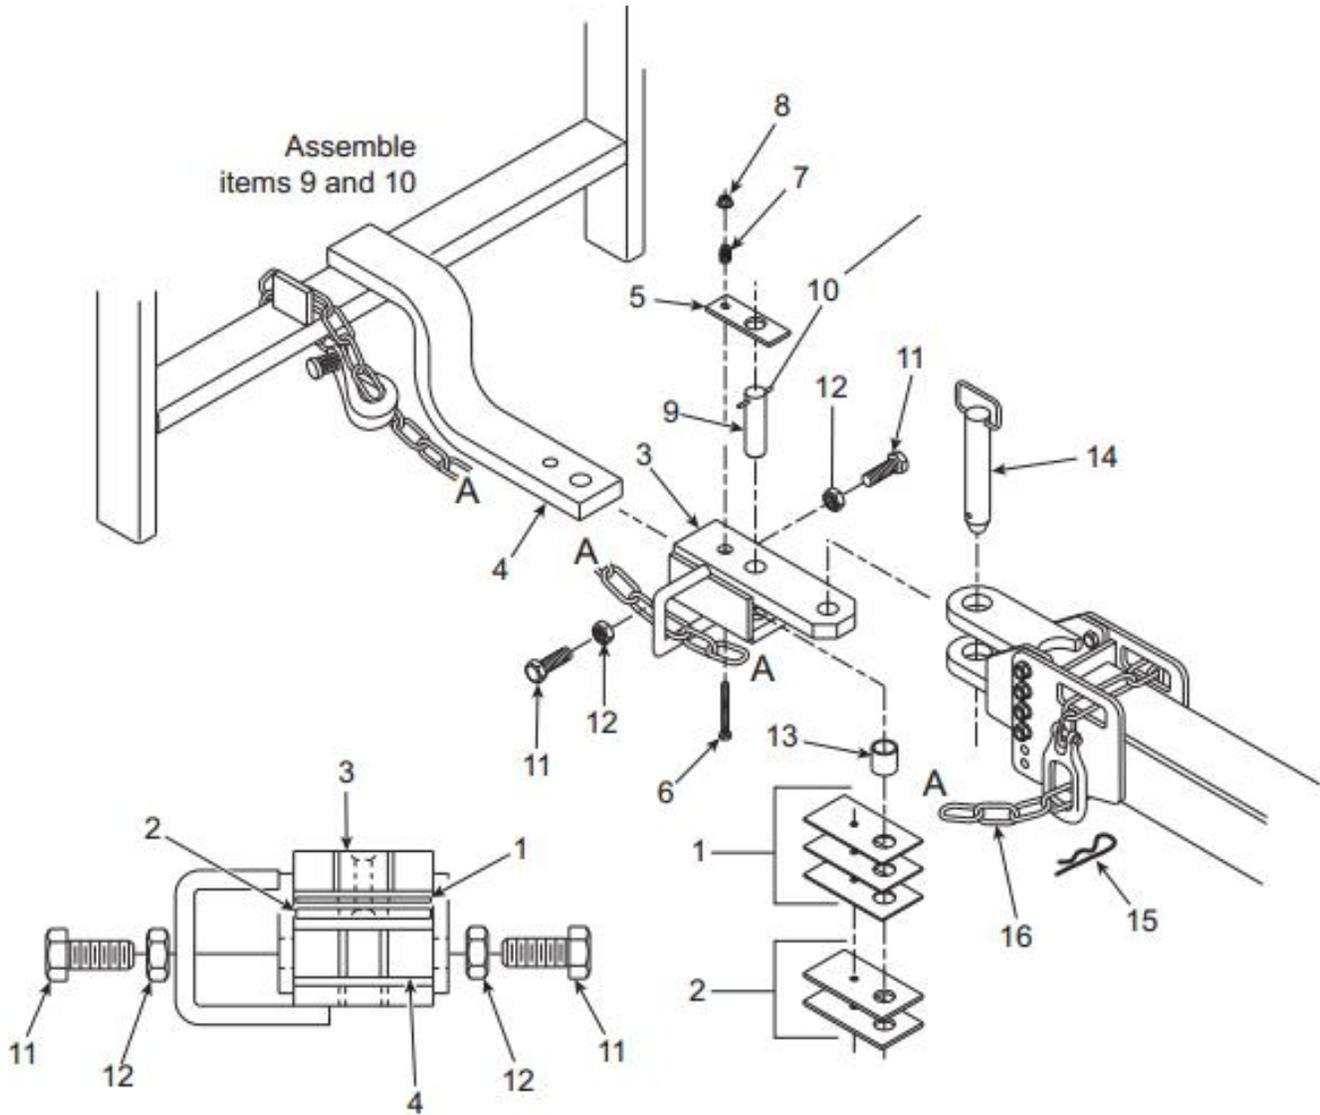

Figure 17 Cat. II drawbar extension
Refer to FIGURE 17 for the installation steps:
1. Determine if the hole in the draw bar (item 4) is too large for use with pin (item 9). If yes, use bushing (item 13) in the hole to reduce the clearance with pin (item 9). Set the parts you need aside until Step 4.
2. Insert shims (items 1 and 2) inside the extension (item 3). Insert extension (with shims) onto the draw bar (item 4).
3. Insert bolt (item 6) through the extension from underneath (Figure 17 Cat. II drawbar extension). Place plate (item 5) onto bolt (Item 6). Install the spring (item 7) and nut (item 8) on bolt (item 6). Do not overtighten. Leave enough play to allow retention or removal of lock pin (item 9).
4. Using pieces determined in Step 1, install pin (item 9) with spring pin (item 10) into extension (item 3) and lock it in place with plate (item 5).
5. Install nuts (item 12) onto bolts (item 11) and then install bolts (item 11) into both sides of the extension (item 3) as shown below.
6. Center the extension (item 3) on the draw bar (item 4). To center side to side, use the bolts (item 11). Once centered, lock the bolts in place using the nuts (item 12).
7. Insert pin (item 14) and lock with the safety pin (item 15).
**NOTE: items 14 and 15 are not supplied by the manufacturer**